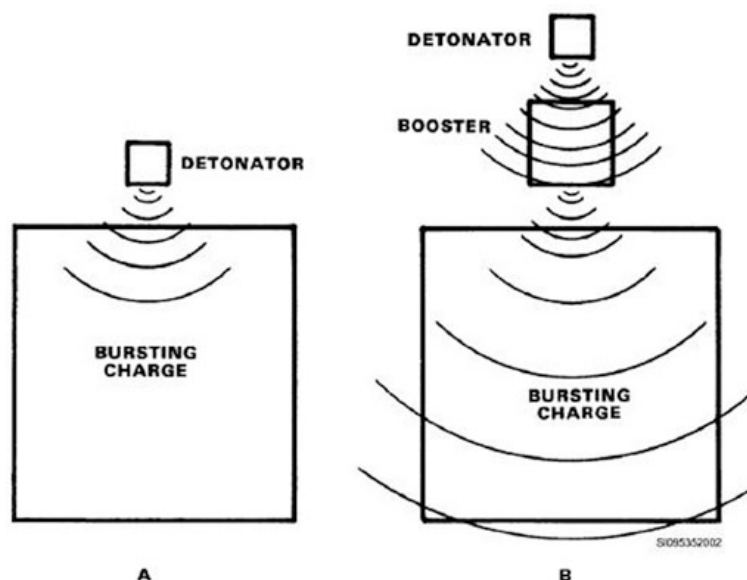

Figure 1-2. Detonation wave effect amplified by a booster.
When the detonator is initiated, it sets up a high-explosive wave but this detonation is so small and weak that it cannot initiate the bursting charge unless a booster is placed between the two. The inability of a detonator to initiate the bursting charge is illustrated in figure 1-2 (A). The shock wave produced by the detonator is not powerful enough. In figure 1-2 (B), you can see that the booster placed between the detonator and the bursting charge amplifies the shock wave enough to do the job.